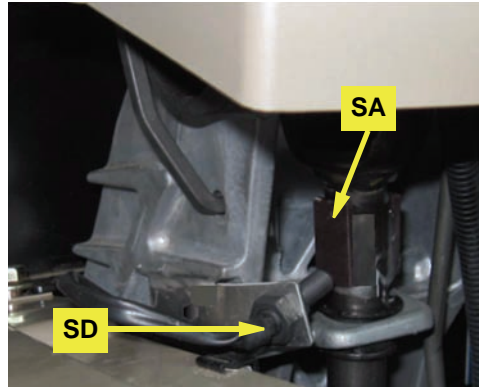

Figure 2c: Installed and adjusted sensor
- c. Install switch **SD** in bracket **SC** and work the bracket to set the sensor tip $1/8''$ to $1/4''$ from the magnets (Figure 2c).